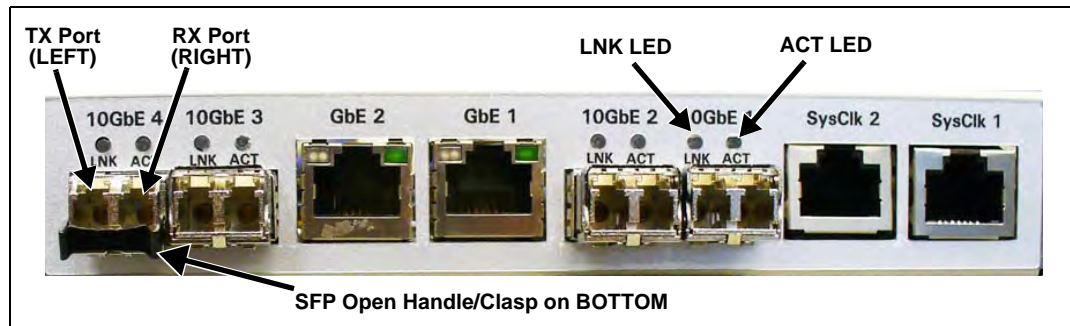

Figure 5.9 - G10 10G Ethernet Connections with SFPs
SFPs are inserted into the 10G connections with the *open handle or clasp on BOTTOM* (Figure 5.9). For the **10G Ethernet connections**, the left port is **Transmit (TX)** and the right port is **Receive (RX)**.